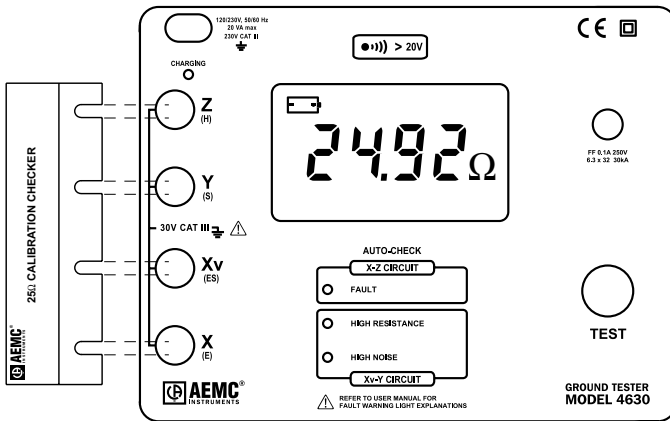

Figure 9
- Insert the calibration checker as shown in Figure 9.
If a check performed on the Model 4630 or 4620 displays a reading between (24.1 and 25.9) Ω (as in Figure 9), the instrument is in good working condition. The readings are for an ambient temperature between (68 and 79) $^{\circ}\text{F}$ (25 ± 3) $^{\circ}\text{C}$.